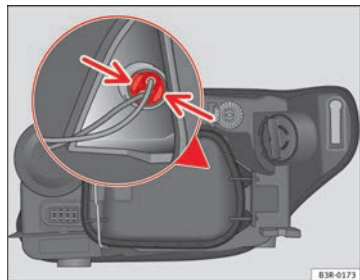

Fig. 214 Side light bulb (outside of vehicle)
- Gently press on the bulb holder tabs ⇒ Fig. 214 and pull the cover upwards (it can also be removed by pulling on the bulb holder wires).